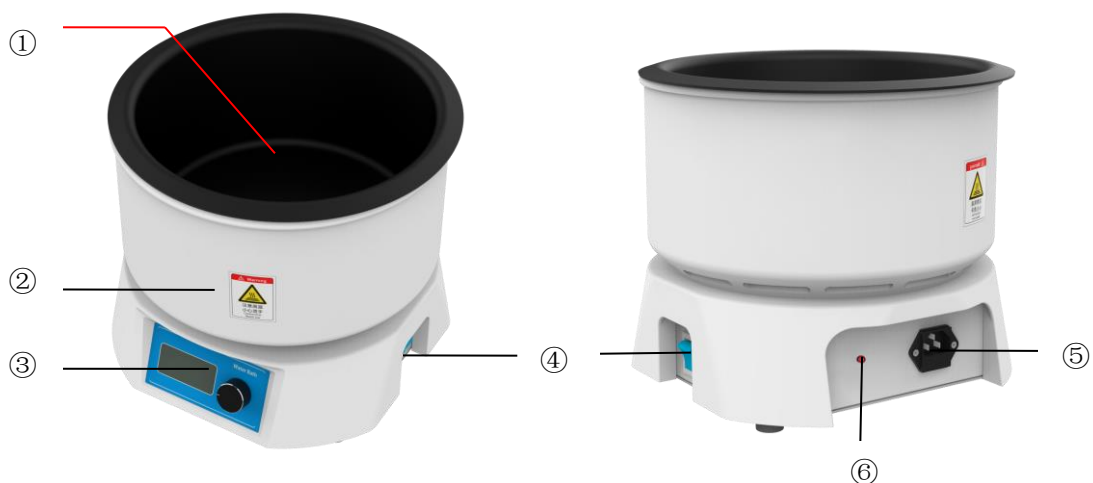

Figure 5
| (5) Rotary flask | (6) Water bath (Figure 5) |
Water bath outline drawing (Figure 5)